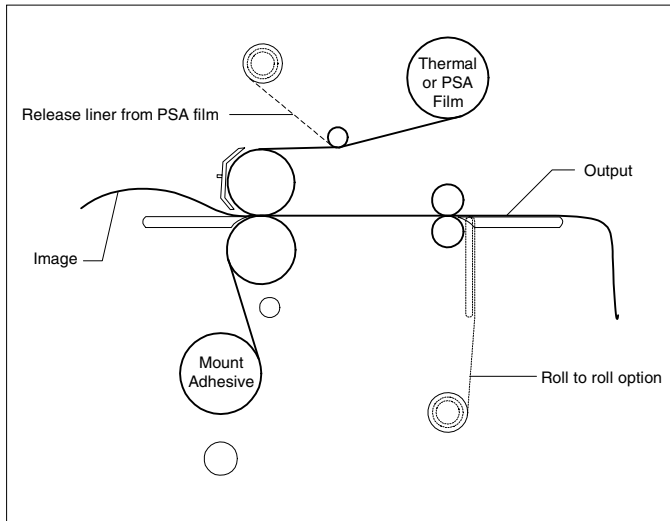

Fig. 37
TIPS FOR CREATING A DECAL (Figure 37)
1. Load the laminator as illustrated in Figure 37.